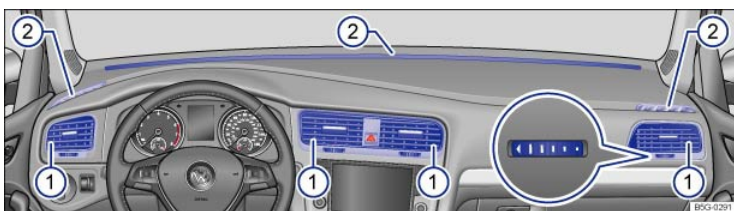

Fig. 104 In the instrument panel: Air vents.
To help ensure sufficient heating, cooling, and ventilation in the passenger compartment, never close the air vents completely ⇒ Fig. 104①.
Additional air vents are located in the instrument panel ⇒ Fig. 104②, in the footwells, as well as in the rear area of the passenger compartment.